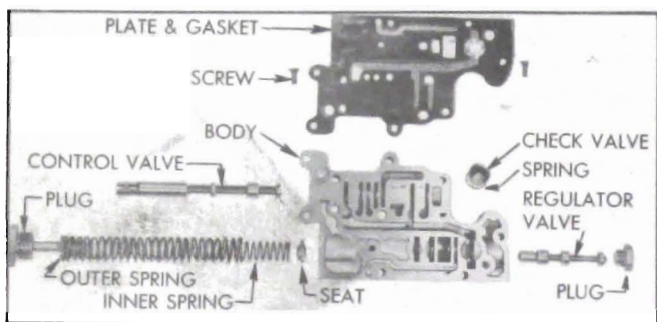

Figure 5-59—Valve Body Disassembled
3. Remove the large pressure regulator valve plug from valve body, using care because of the heavy spring pressure behind the plug. Remove the two springs and spring seat. See figure 5-59.
1. Place front pump delivery check valve spring in body with large end down and place check valve on spring with ridged side up. See figure 5-59.